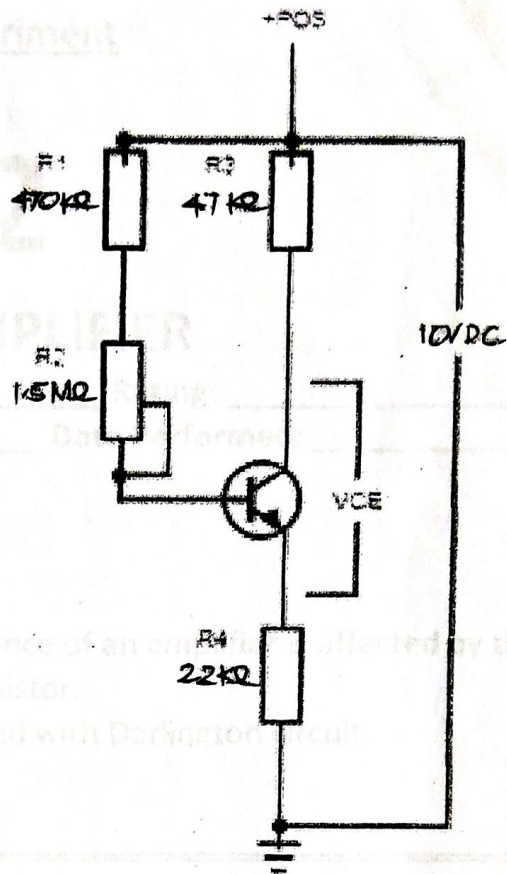

FIGURE 4-12
6. Install a 2.2 K ohm resistor in series with the transistor's emitter lead so that your circuit appears as shown in figure 4-12. Your experimental circuit now contains a 2.2 K ohm emitter resistor which will provide emitter feedback.